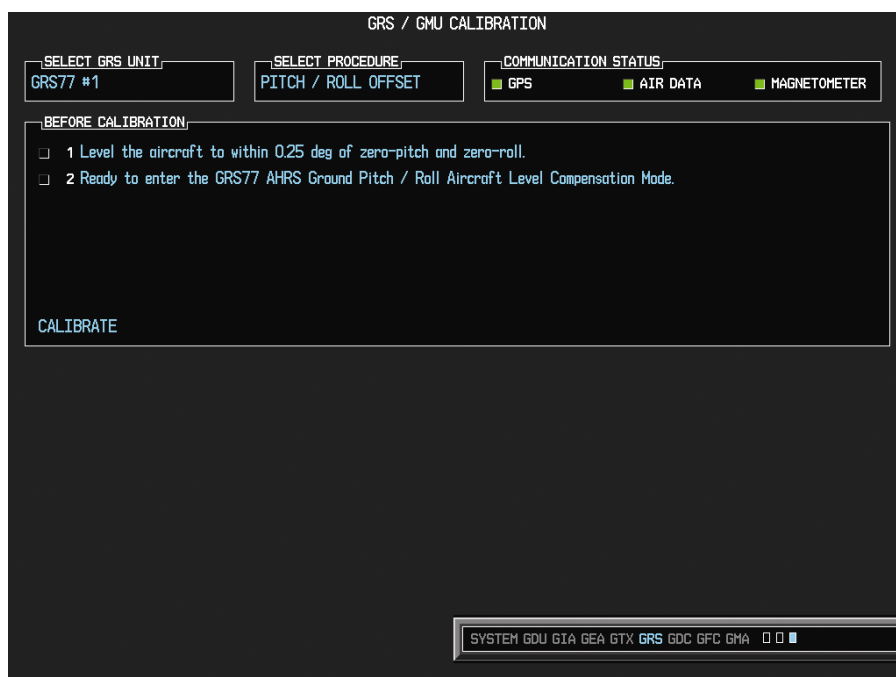

Figure 7-7. Pitch/Roll Offset
- a. Enter configuration mode and go to GRS/GMU CALIBRATION page as shown in Figure 7-7.